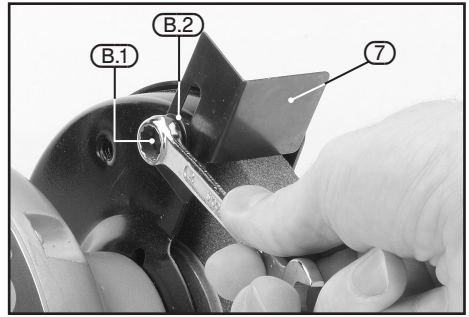

FIG.3
8.4 ATTACHING THE SPARK DEFLECTORS – FIG.3
- Attach the left- and right-hand spark deflectors using the fittings from groups (B) and (C) shown in 7.2 WHAT'S IN THE BOX section on page 12.
- Attach the spark deflectors using the two bolts (B.1) and medium size washers (B.2) as shown in Fig.3.